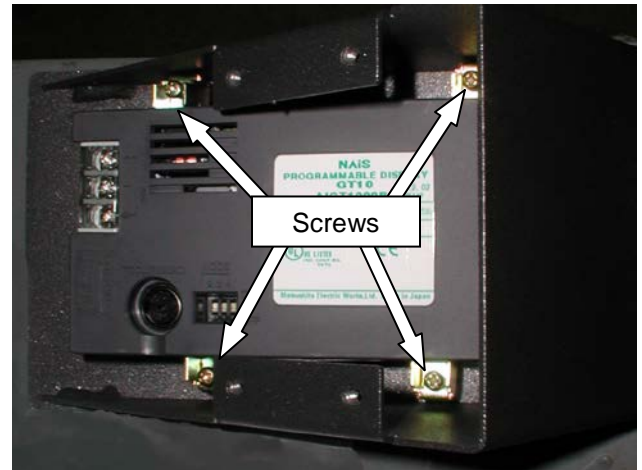

Figure 3-88. Display Screws
- Loosen the screws on the four clips holding the Touch Screen. Remove clips from Touch Screen (Figure 3-88).